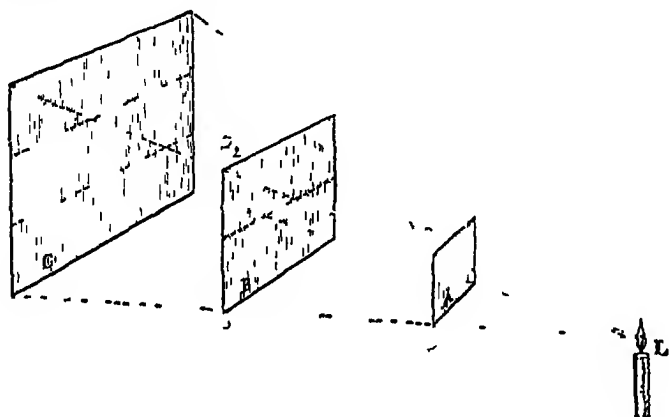

FIG 62
Place a square of cardboard, A (fig 62), 1" side, one foot away from a candle, and a white screen 2 feet away. The shadow B measures 2 inches side. If A be removed, the light that fell on A (1 square inch) will fall on B (4 square inches)
5. In fig. 62 if A be a disc 2' diameter, 3' from the luminous point, what shape and size will the shadow B be, when it is 7" from the point?